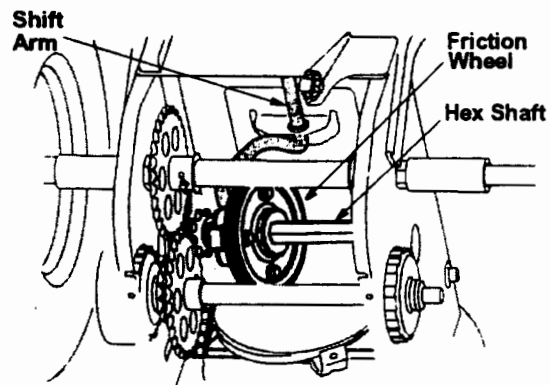

Figure 25
10. Insert the shift arm assembly into the friction wheel assembly and hold assembly in position. See Figure 25.
14. Install the right bearing on the hex shaft and check that the spacer and bearing in the drive cover are aligned to the steerable shaft. See Figure 25.